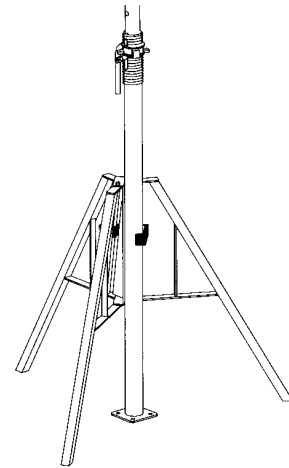

Fig. 3.2 Tripod Attached to Post Shore
3. Secure the post shores in the Tripod stands (Fig. 3.2).